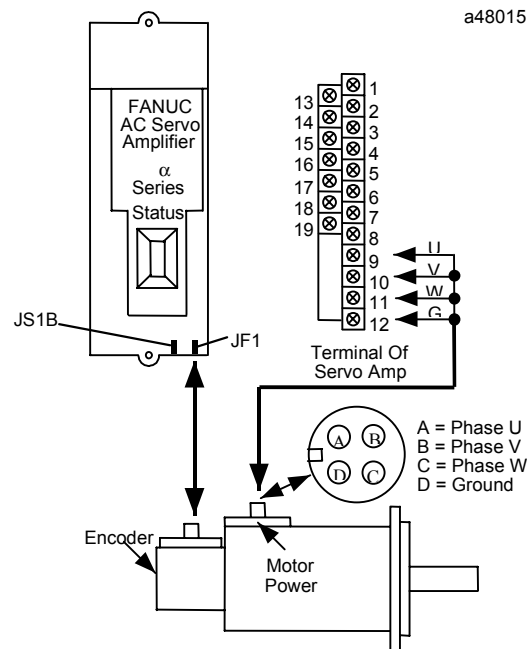

Figure 2-5. Connecting the Motor to the α Series Servo Amplifier Terminal Strip
- B. One end of this cable has four wires labeled U, V, W, and GND that connect to screw terminals 9-12 on the servo amplifier. Connect these four wires to the terminal strip as shown in Figure 2-5.